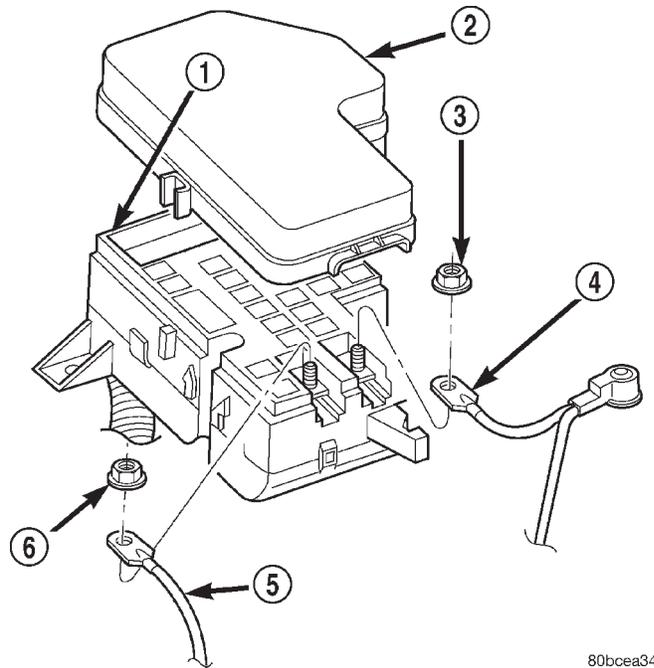
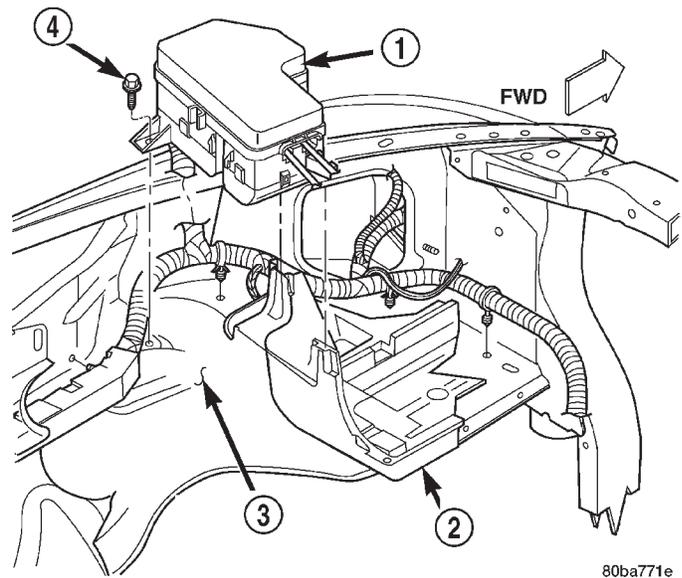

Fig. 6 Battery and Generator Connections to PDC
Fig. 7 Power Distribution Center Remove/Install
(7) Slide the engine wire harness retainer clip upward and disengage the harness from the trough on the rear of the PDC housing.
(8) Remove the nut that secures the eyelet of the battery negative cable generator output take out to the rearward B(+) terminal stud in the PDC and remove the eyelet from the stud (Fig. 6).
(9) Remove the nut that secures the eyelet of the battery positive cable PDC take out to the forward B(+) terminal stud in the PDC and remove the eyelet from the stud.
(10) Remove the screw that secures the PDC housing to the left front fender wheel housing (Fig. 7).
(11) Disengage the latches for the two PDC mounts and lift the unit off of the battery tray stanchions.
(12) Remove the PDC and the headlamp and dash wire harness from the engine compartment as a unit.